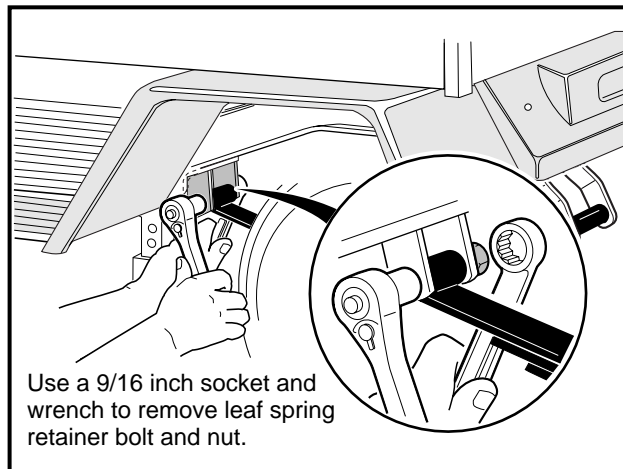

Figure 16-23 Spring Retainer Bolts
9. Remove the bolts securing the leaf springs to their front mounts (**Figure 16-23, Page 16-11**).